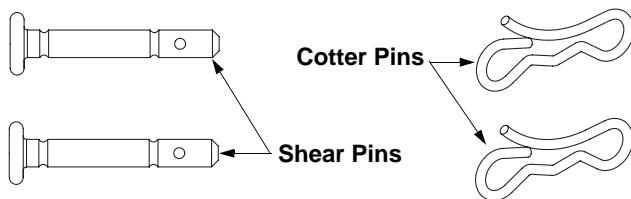

Figure 1
- The augers are secured to the auger shaft with shear pins and bow tie cotter pins. If you hit a foreign object or ice jam, the snow thrower is designed so that the pins may shear. Two replacement shear pins and cotter pins are provided for your convenience. See Figure 1. Store these safely until needed.